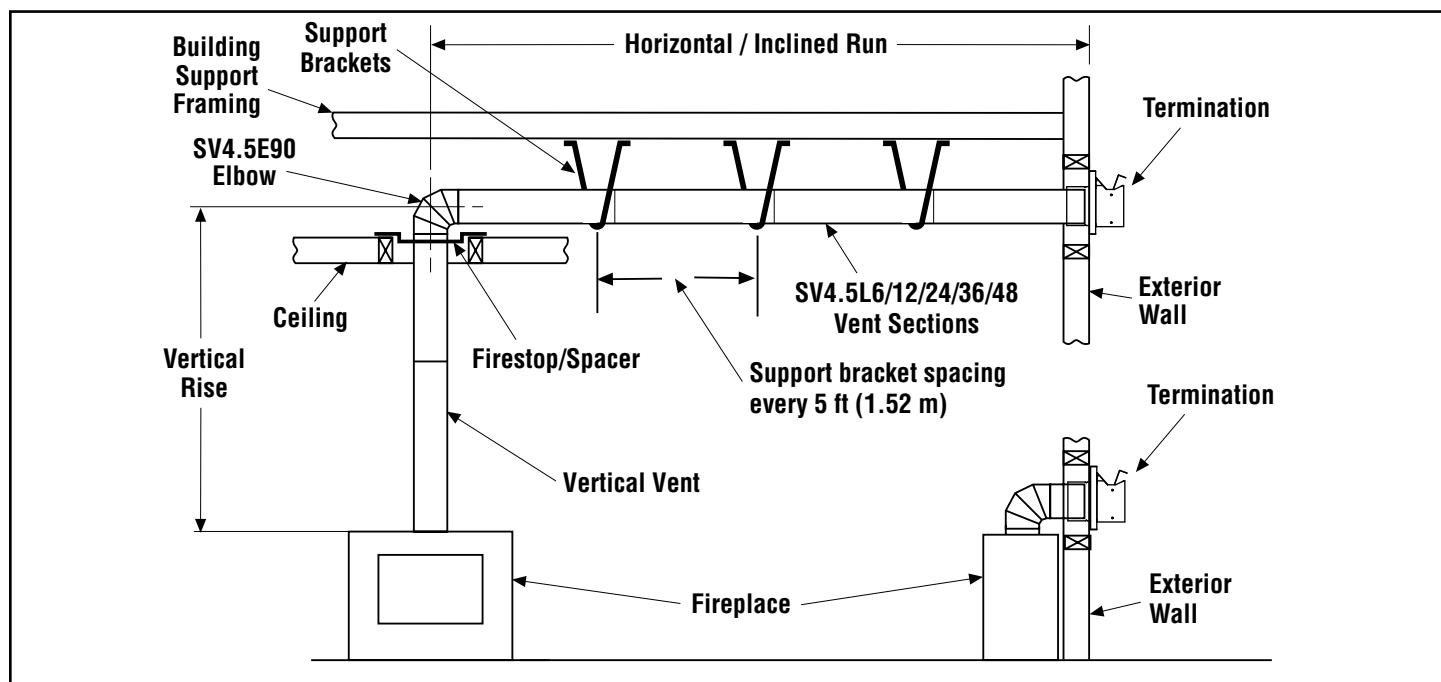

Figure 8 - Typical Horizontal Vent Installation
- 2. Support fireplace vent outlet with field provided support straps (Plumber's tape)**—Attach the straps to the vent pipe and secure to the framing members with nails or screws (*Figure 8*).
1. **Continue installation of horizontal/inclined sections**—Continue with the installation of the straight vent sections in horizontal/inclined run. Install support straps every 5 ft. (1.52 m) along horizontal/inclined vent runs using conventional plumber's tape (**Figure 8, Page 14**). Maintain the horizontal/inclined run in a straight (no dips), slightly elevated plane. The recommended incline is approximately 1/4" per 1 ft (20 mm per 1 m) horizontal, in a direction away from the fireplace. Smaller rise per foot run ratios are acceptable all the way to at or near level. Use a carpenter's level to measure from a constant surface and adjust the support straps as necessary. Maintain the required clearances to combustibles (**Page 9**).